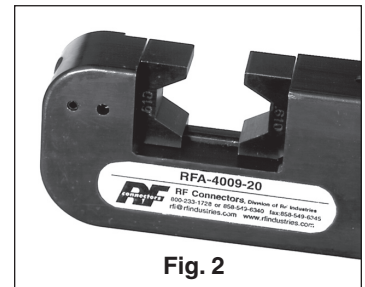

Fig. 2
3. Push shanks of the die set into the holes in the tool until they snap into place. There will be no gap between the die body and tool body. (Fig. 2)